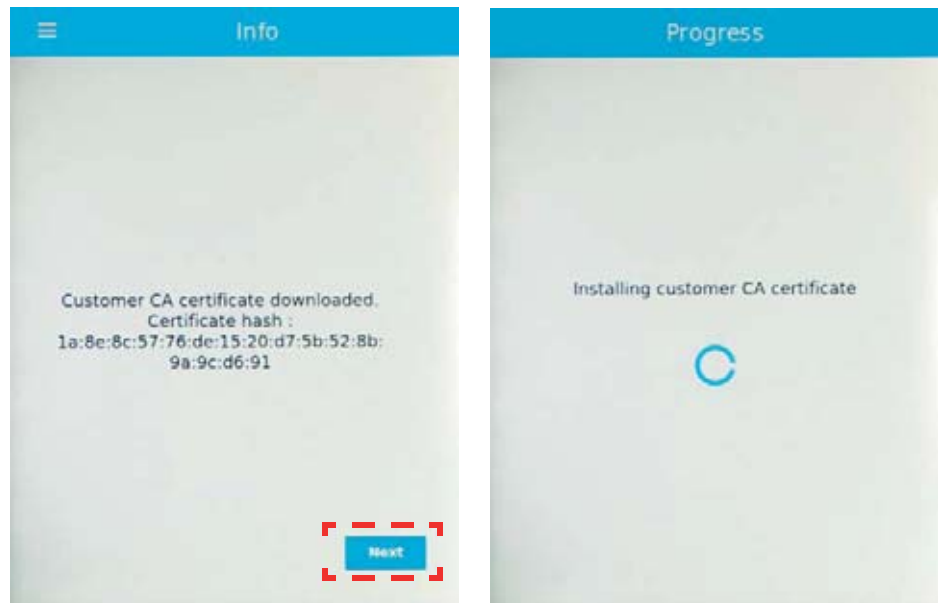

Figure 4-5 BAT - Pre-Initialization, Install Certificate
Step 7 Press <Next> to install the certificate, see **Figure 4-5**.